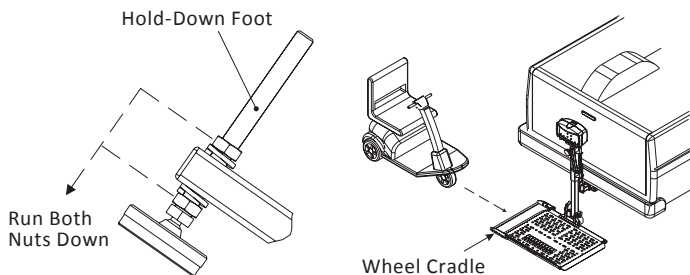

Figure 6-1
1. With the platform on the ground, run both nuts down onto the hold-down foot, so the foot will not catch onto the scooter's deck. Drive the scooter onto the platform, from left (driver's side) to right, until the rear wheels are positioned in the wheel cradle. Stop when the rear tires contact the ramps of the platform. *See Figure 6-1.*